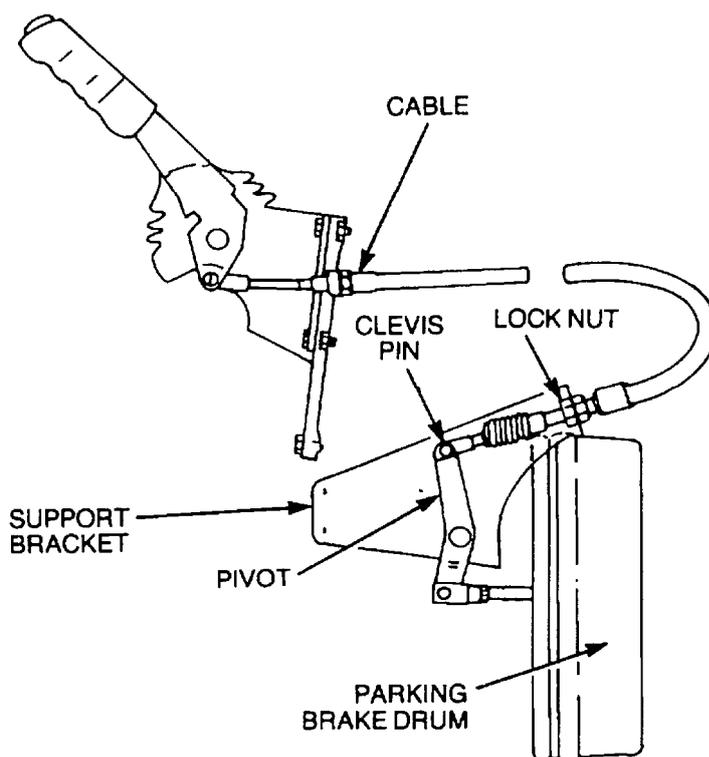

Figure 49 Parking Brake Cable Removal
- t. Remove the split pin and clevis pin securing the parking brake cable to the pivot at the transmission end of the cable (Figure 49).